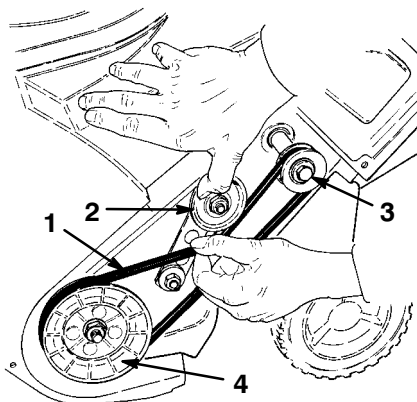

Figure 16
8. Pull the idler pulley up slightly while pulling out the drive belt. Allow the pulley to gradually release when it can move past the belt (Fig. 16).
9. Rotate the rotor and work the drive belt off the rotor pulley. The belt should slide easily off the drive pulley (Fig. 16).
10. Loop the new drive belt around the drive pulley. While holding the drive belt, slip it onto the rotor pulley and rotate the rotor until the drive belt is completely on the rotor pulley (Fig. 16).